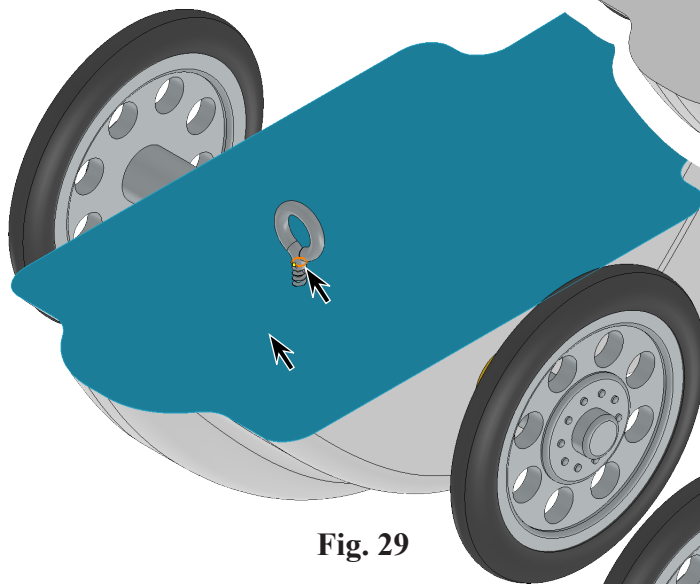

Fig. 29
Step 5. Click **bottom face of the Body** and **circular edge of the Eye Screw**, Fig. 29.